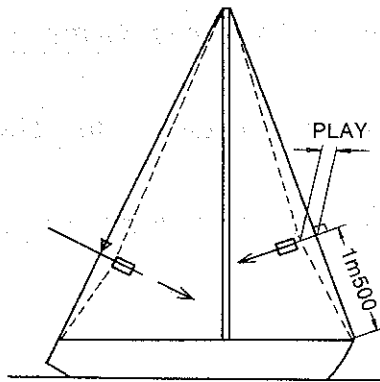

Fig. 12
- (1) **Head Stay:** Set up the head stay taut. And pull the stay by means of a spring balance at right angles to it at the point of the heights of 1m500 / 4 ft 11 in from the pin of the head stay fitting. Adjust the turnbuckle so the stay has: 55mm / 2-3/16 in of play at 10 kg / 22 lbs load (see Fig. 12).
- (2) **Permanent Backstay:** Set up the permanent backstay so the stay has 50 mm / 2 in of play at 10 kg / 22 lbs of load at the toggle (see Fig. 12 and 13).
- (3) **Recheck the Head Stay:** By the above in (2), the head stay has got some additional tension. The play will reduce to 45 mm / 1-3/4 in.
- (4) **Secure the turnbuckle locknuts of the head stay and backstay.**